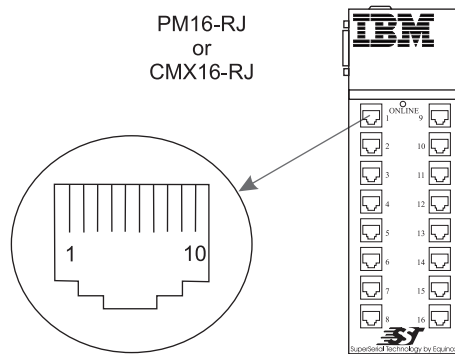

Figure 5-8. PM16-RJ and CMX16-RJ Port Connector Orientation
The PM16-RJ and CMX16-RJ ports provide standard RS-232 DTE signals on all RJ-45 modular jacks (10-pin), one for each device to be connected as shown in Figure 5-8.
- All jacks on the PM16-RJ and CMX16-RJ units face the front of the product with the key pointed down. Refer to Figure 5-8 for the modular jack wiring orientation.